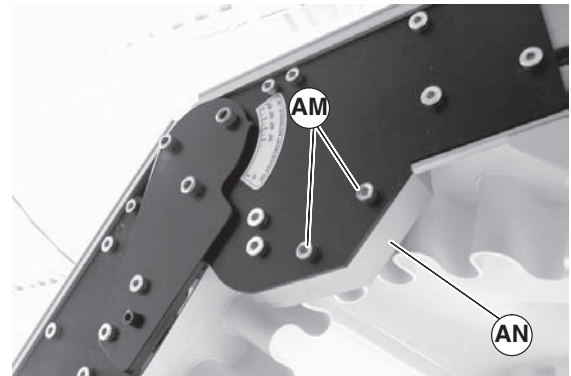

Figure 18
4. If equipped with an upper knuckle, remove screws (Figure 18, item AM) and remove guard (AN) on both sides of knuckle.